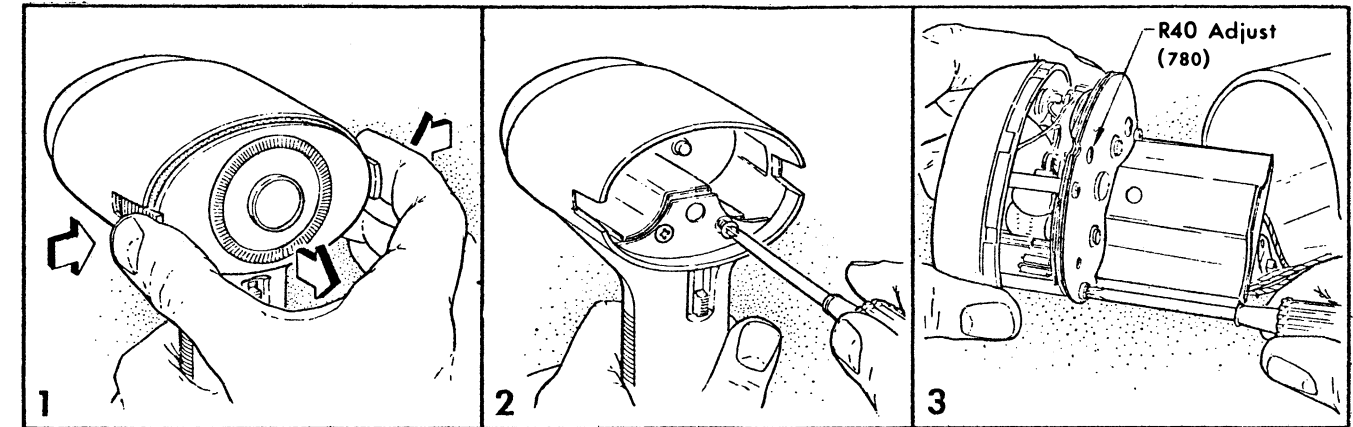

Figure 5-1.
- a. Squeeze the two battery tray release buttons (1, Figure 5-1) and withdraw the battery tray.
- b. Remove the two screws (2, Figure 5-1) that hold the chassis assembly to the housing, and pull the chassis assembly out of the front of the housing.
- c. To remove the nose ring assembly from the chassis assembly, remove the three screws (3, Figure 5-1) that hold the nose ring assembly to the chassis. Separate the nose ring from the chassis.